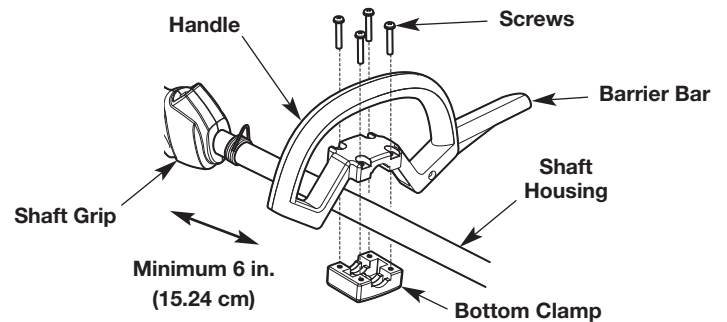

Fig. 3
1. Use a large flat-head screwdriver or a T-25 Torx screwdriver to remove the four (4) screws and bottom clamp from the handle.
4. Insert the four (4) screws through the handle and into the bottom clamp.
6. While holding the unit in the operating position (Fig. 13), move the handle to the location that provides the best grip. Place it a minimum of 6 inches (15.24 cm) from the end of the shaft grip (Fig. 3).
2. While holding the unit in the operating position (Fig. 13), move the handle to the location that provides the best grip. Place it a minimum of 6 inches (15.24 cm) from the end of the shaft grip (Fig. 3).